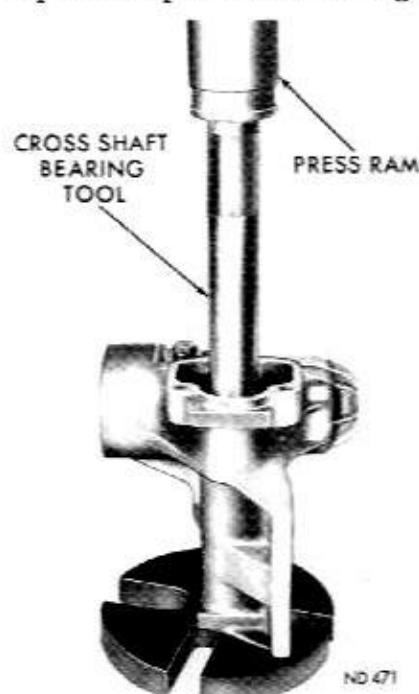

Fig. 9—Installing Inner Bearing
(18) The cross shaft and wormshaft oil seals should be replaced when unit is reconditioned.
(19) Install cross shaft outer needle bearing by placing bearing on end of Tool C-3875 with adapter ring. Press bearing into housing to 1/2 inch below end of bore to provide space for oil seal.
(20) Install inner needle bearing by placing bearing on Tool C-3875 (Fig. 9). Press bearing into inside end of housing bore flush with inside end of bore surface.